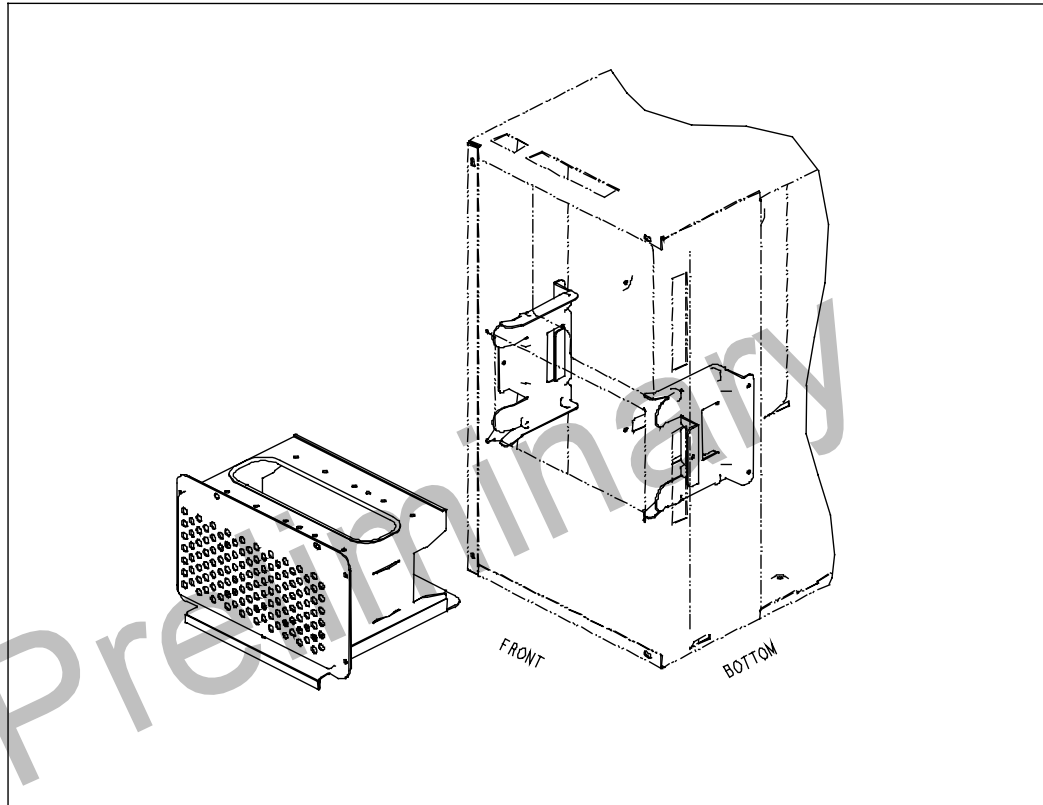

Figure 9: Hard Drive Assembly – Exploded
The hard drive assembly holds a combination of up to five (5) half-height 3½" hard drives or three (3) full-height 3½" hard drives in a single package. This assembly slides in and out of the chassis on carrier brackets secured to the chassis front. Figure 9 shows the hard drive carrier pulled free of the carrier brackets, which are shown mounted inside a phantom chassis.